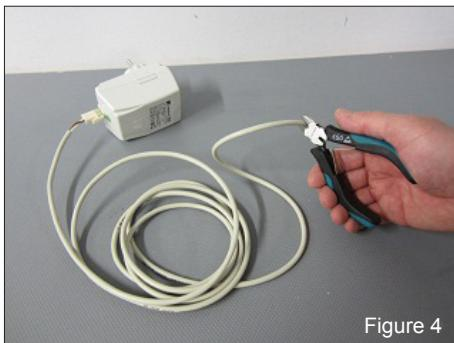

Figure 4
- Power supply cable: Measure the length of the cable between the wall outlet and the alarm unit. The lead between the unit and the connector must not be taut so that there is a little extra cable available. Cut, see Figure 4.